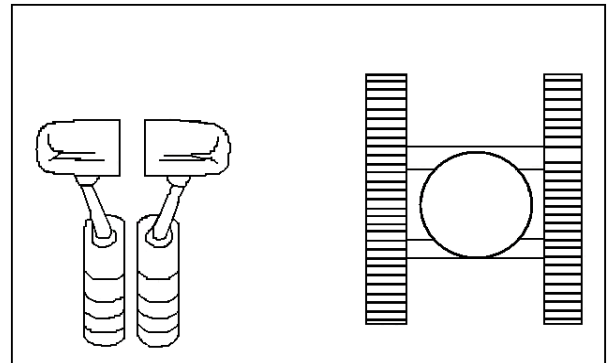

Fig 3-37
13. Stop walking (Fig 3-37) — put the operating rod in the center position, the machine will brake automatically and park.